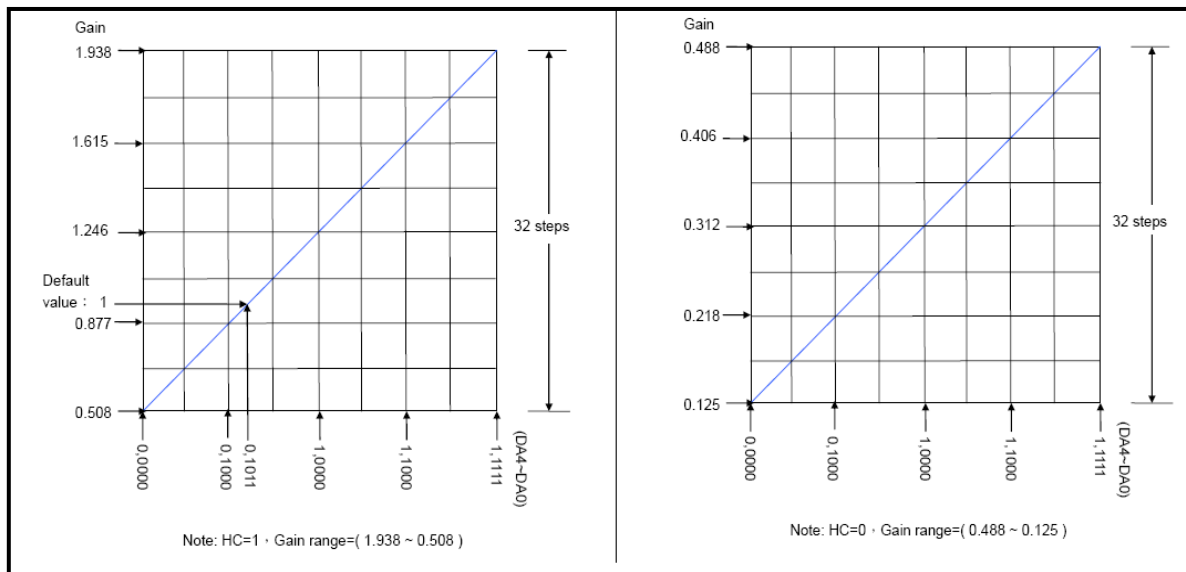

Figure 13. The relationship of current gain and gain code
Figure 13 shows the relationship of current gain and gain code. The bit 9 is HC bit, HC=0 means in low current region, and HC=1 is high current region.
Step 1: From (4), the  $R_{ext} = [(0.61 \times 1) / 20mA] \times 23 = 701.5\Omega$ . From figure 13,  $G=1$  in the high gain region, that means the  $HC=1$ . Thus, substitute above information into (5), the  $D=(65 \times G-33)/3=10.67 \approx 11$ .